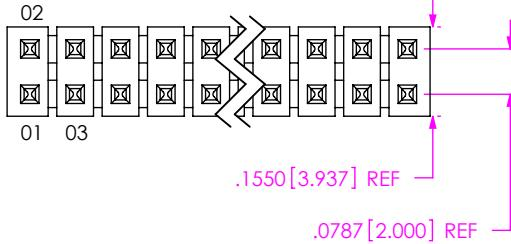

FIG 2
- D: DOUBLE (TMM-50-D, SEE FIG 2, SHT 2)